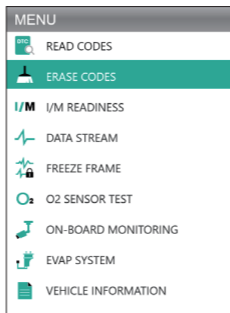

Figure 3.3.1
- Select the Erase Codes Icon (See Figure 3.3.1), and press [OK]